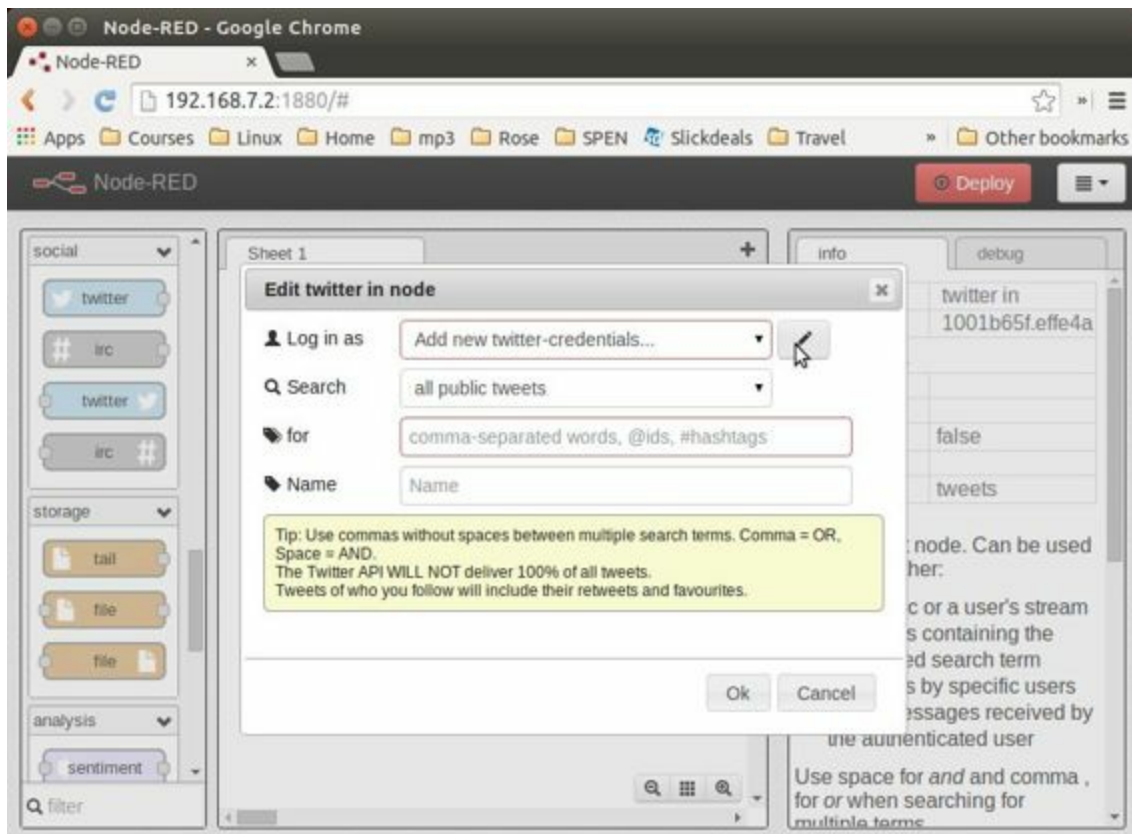

Figure 6-9. Node-RED Twitter authorization, step 1
3. Authorize Twitter by double-clicking the `twitter` node. You'll see the screen shown in Figure 6-9.